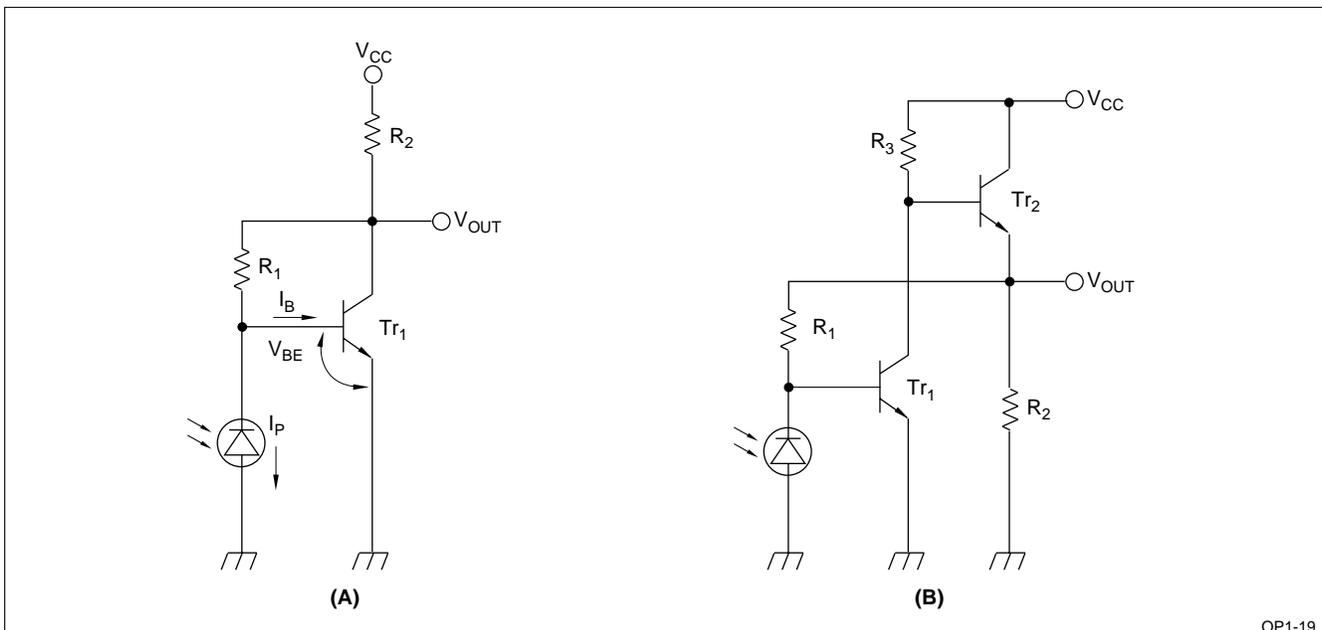

Figure 4. Photocurrent Amplifier Circuit with Negative Feedback
Figure 4 shows simple amplifiers utilizing negative feedback.
In the circuit of Figure 4 (A), the output ( $V_{OUT}$ ) is given as:
The circuit of Figure 4 (B) has an additional transistor ( $Tr_2$ ) to provide a larger output current.